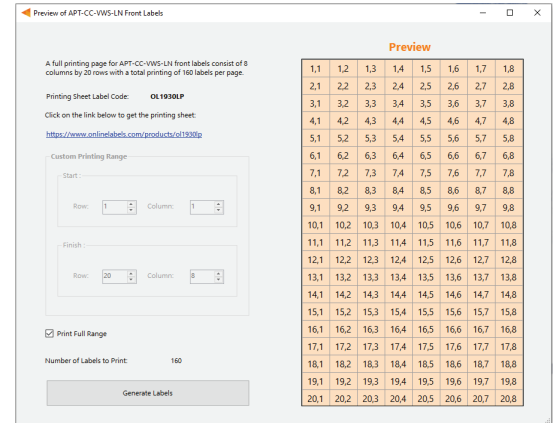

Figure 12: Label generation print preview window
- 4 Input the starting and finishing rows and columns that will fit on the back or front labels. The selected range is highlighted in blue (Figure 12).